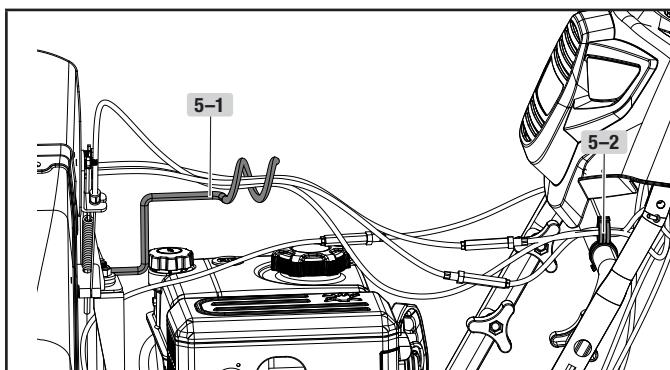

Figure 5
- Route the cables through the support rod wire form (5-1) and cord clamp (5-2) on the lower handle. Additional cable ties are included to neaten up the cables. Keep loose before first use and adjust. When comfortable all the cabling is in proper position, tighten up the cable ties (Fig. 5).